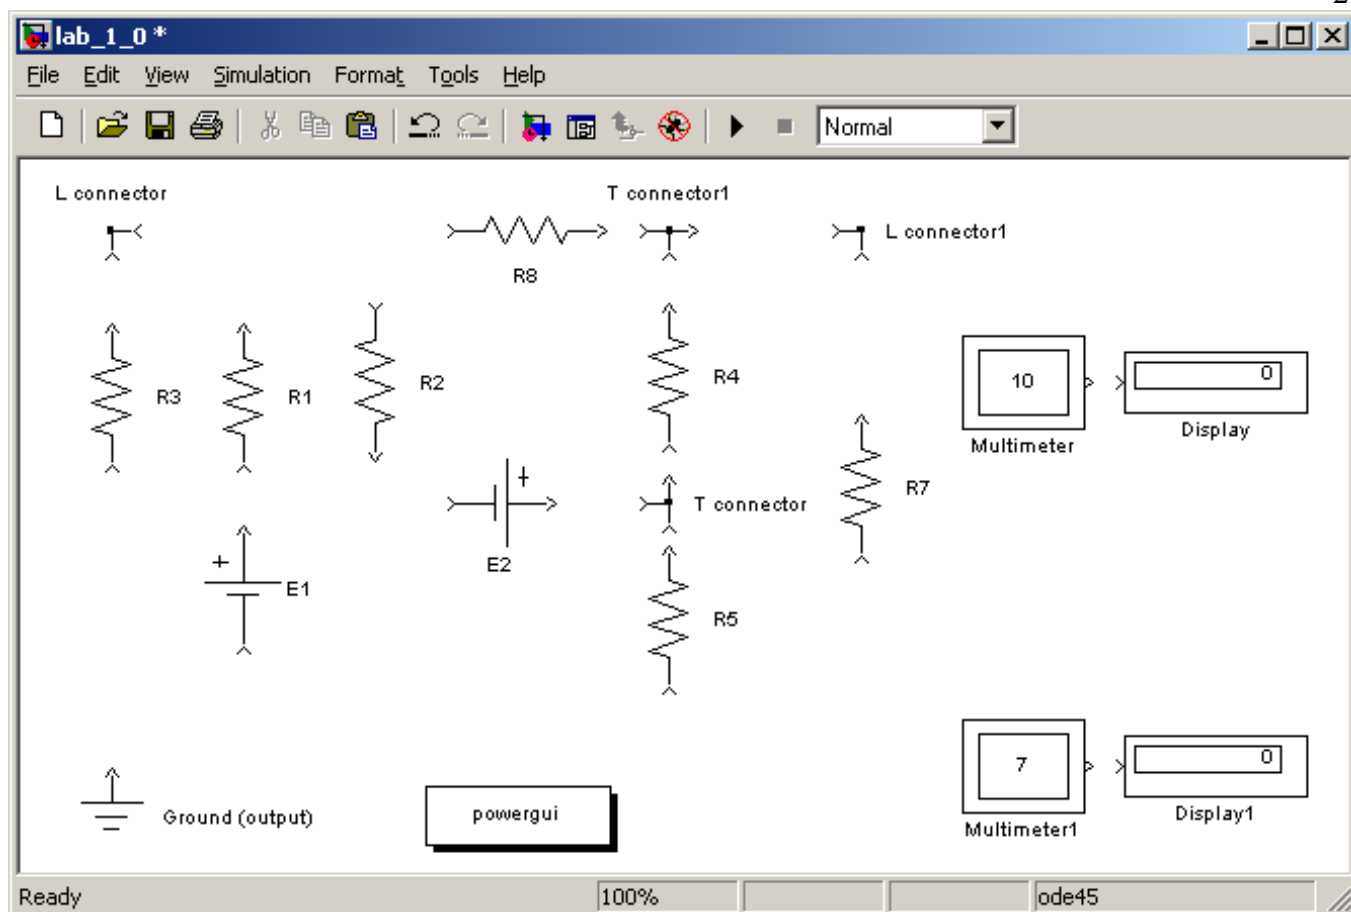

Fig. 5.3. Simulink model field
2. In the section viewer of the Simulink library, first create a new model field, and then select the necessary elements and transfer them to the model field (Fig. 5.3):